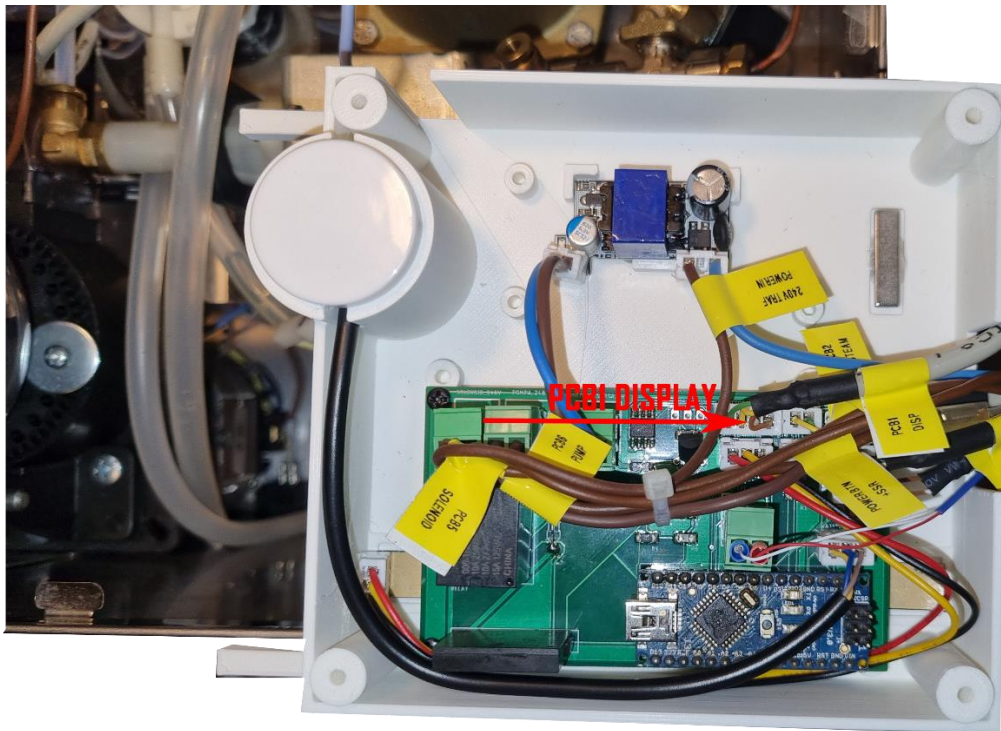

Fig. 6.9
- Plug in the DISPLAY CABLE - PCB plug (PCB1 DISPLAY) and let the rest of the cable outside the case through the big hole (fig. 6.9)